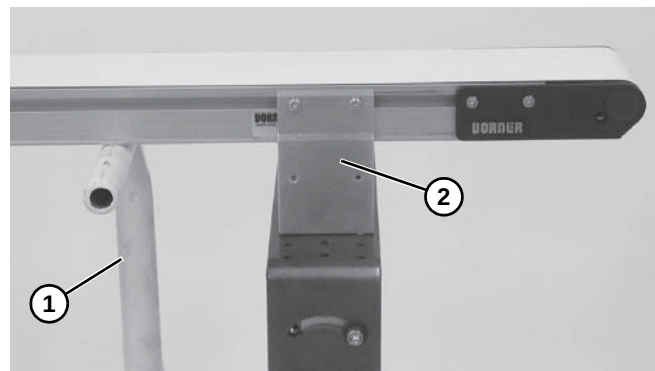

Figure 21
8. Place temporary support stands (**Figure 21, item 1**) at both ends of the conveyor.
9. Remove mounting brackets (**Figure 21, item 2**) from one side of conveyor. (Reverse steps 3 & 4 of “Mounting Brackets” on page 8.)